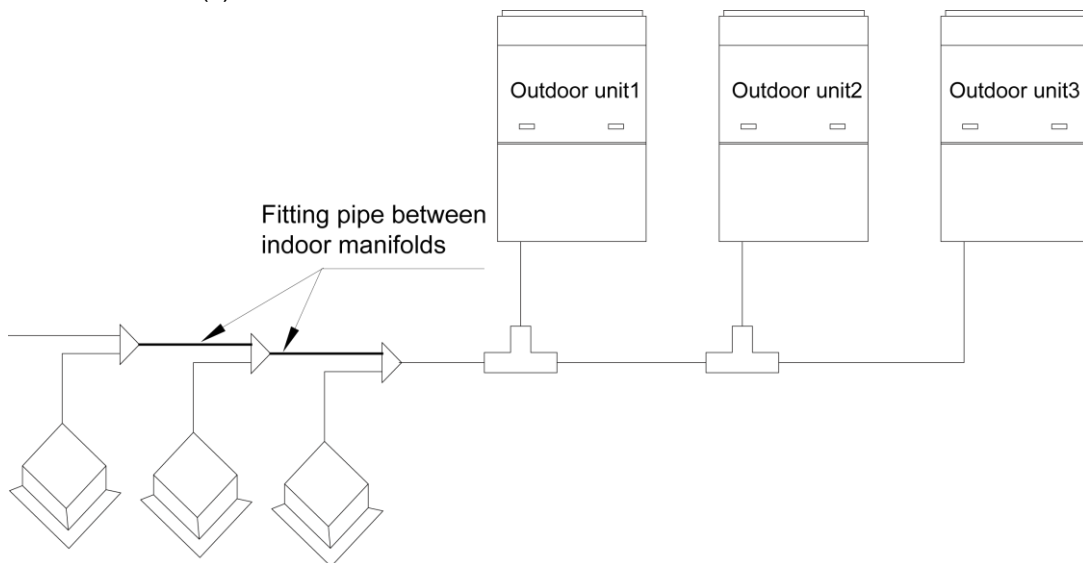

Fig.29
- (1) Conform to the following principles during piping connection: Connection pipeline should be as short as possible. The height difference between indoor and outdoor units should be as short as possible. Keep number of bends as little as possible. The radius of curvature should be as large as possible.
- (2) Weld the connection pipes between indoor and outdoor unit. Please strictly conform to the requirements for welding process. Rosin joints and pin holes are not allowable.
- (3) When laying the pipes, be careful not to deform them. The radius of bending parts should be more than 200mm. The pipes can not be repeatedly bent or stretched, otherwise the material will get harden. Do not bend or stretch the pipe over three times at the same position.
- (4) Please use a torque wrench to connect union nut on the indoor unit. See Fig. 29.